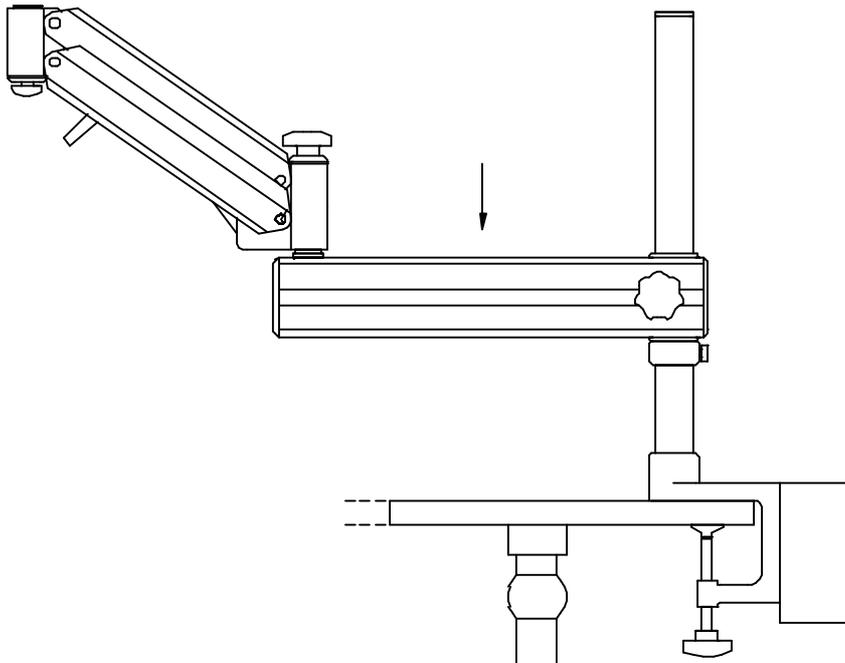

Figure 4 Attaching the arm assembly
5. Remove the arm assembly from the case, and place it on the pillar. Make sure that the arm assembly rests against the safety clamp (see figure 4).